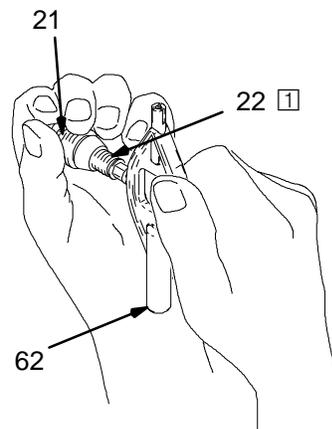

Fig. 17
- Unscrew the resistor stud (22) from the fluid nozzle (21) with the multi-tool (62). See Fig. 17.
- Install the resistor stud (22) in the fluid nozzle (21) with the multi-tool (62). Tighten the resistor stud to 10 in-lb (1.13 N•m). See Fig. 17.